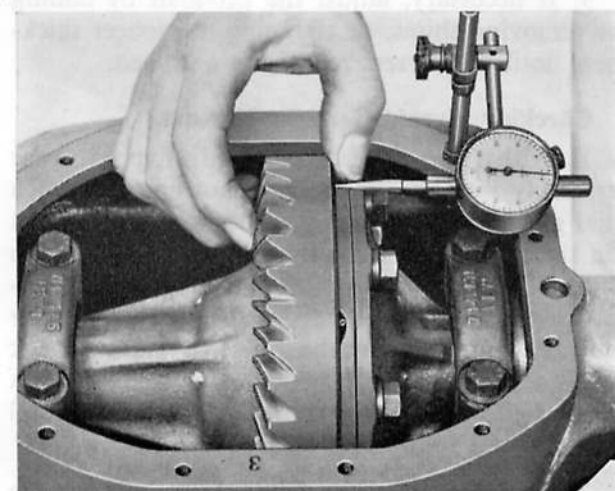

Fig. J.23. Checking the hypoid gear for run out
1. With the differential and hypoid gear assembly installed in the axle housing, mount a dial gauge on the housing, and check for run-out on the back face of the hypoid gear as shown in Fig. J.23. The run-out must not exceed the specified maximum. If in excess of this figure, the gear must be removed from the differential and a check made for foreign matter on the mating faces, or a further check made for run-out of the differential case flange.